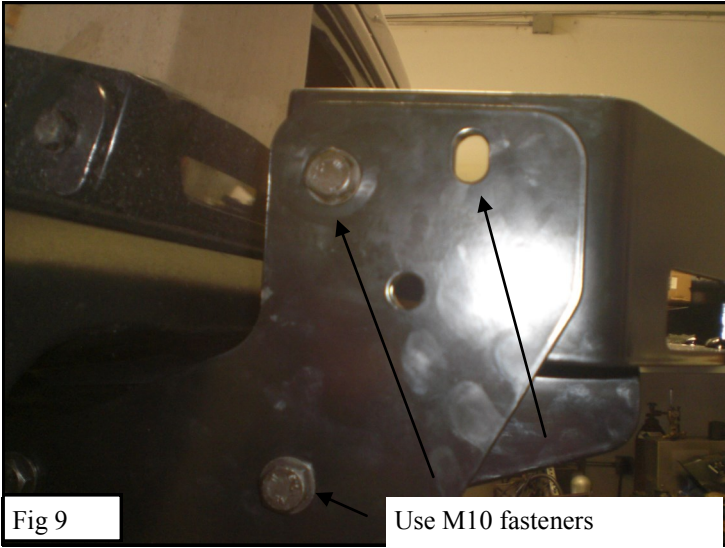

Fig 9
9. Locate the winch tray and place it on top of the previously installed mounting brackets, attach the winch tray to the frame mounting brackets using (6) M10 hex head bolts, (12) M10 flat washers, (6) M10 lock washers, and (6) M10 hex nuts. Attach the winch tray to the inner mounting brackets using (4) M12 hex head bolts, (8) M12 flat washers, (4) M12 lock washers, and (4) M12 hex nuts. Do not fully tighten at this time {Fig 9, 10 & 11}. Note: If installing the 40-92315/45-92310 Grille Guard only install the M12 hardware at this time.